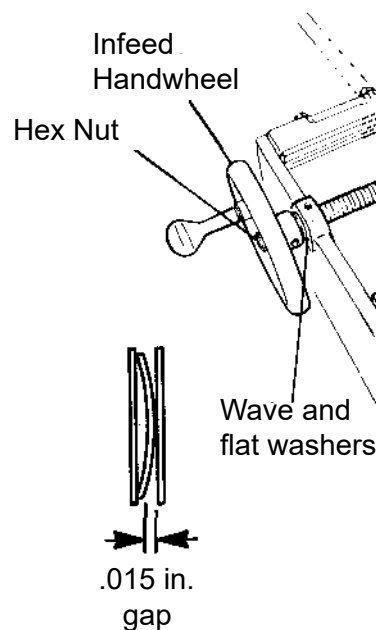

FIG. 12B
C. Check for .015 in. [.04mm] gap between the wave washer and the flat washer. See FIG.12B. Readjust the hex lock nut if necessary.